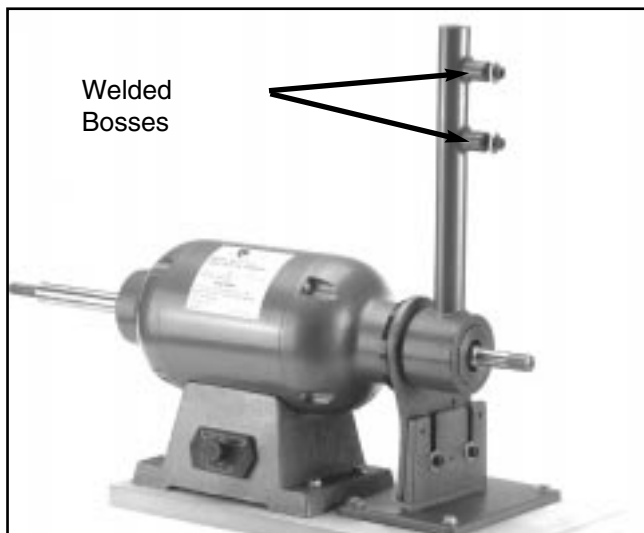

Figure 7. Pivot arm adjustment.
3. Tighten the three (3) $\frac{5}{16}$ " - 18 x 1" cap screws which hold the pivot arm bracket to the mounting bracket. Make sure this assembly is pushed far enough back that the bottom of the pivot arm bracket is approximately parallel to the base.
5. Reattach the pivot arm by sliding it onto the bushing. The two welded bosses should be pointed outward as shown in **Figure 7**. Tighten the two setscrews on the pivot arm. After assembly, the belt sander can be tilted at any angle from vertical to horizontal by loosening and tightening those two setscrews.